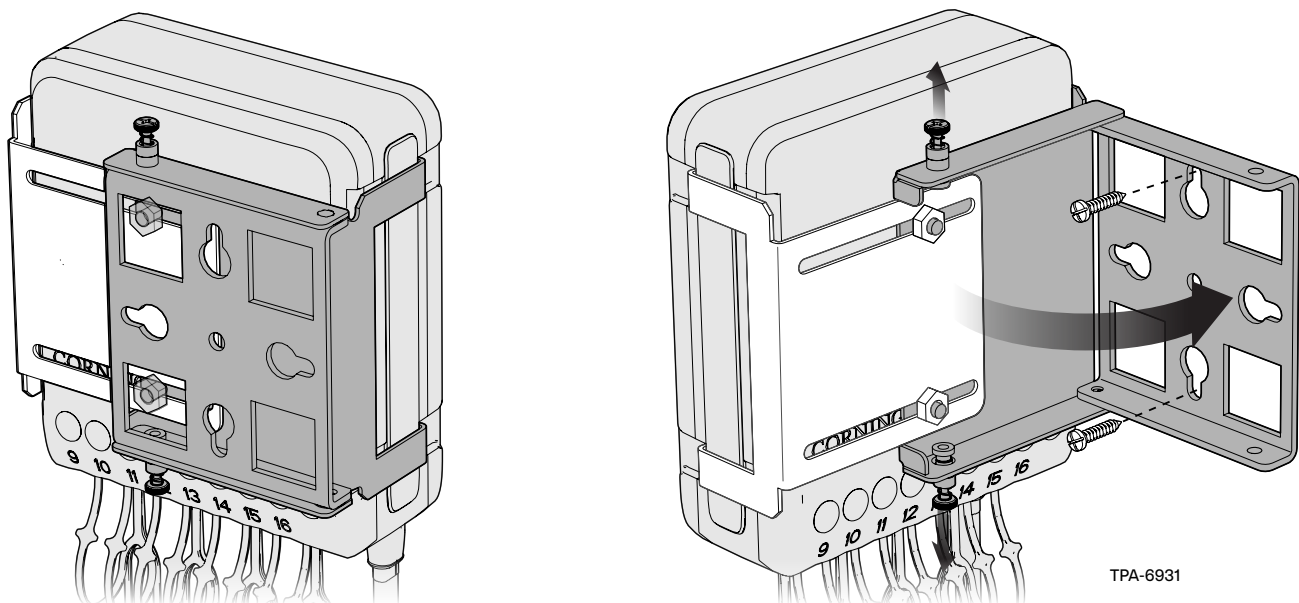

Figure 11
**Step 2:** Secure the halves together using the supplied 10/32 nuts. Secure the bracket to the pole or wall with two screws in the top and bottom slotted holes (Figure 11).